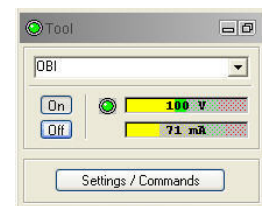

Figure 3-1 Tool panel
2. Select the relevant OBI tool from the drop down list (Figure 3-1) in the software's **Tool** panel (if your tool is not listed check that your tool configurations file is stored in the designated folder on your computer).
4. On the **Tool** panel (Figure 3-1) click the **Settings / Commands** button to configure your tool (see chapter 3.5 for details).